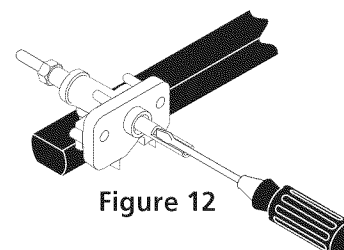

Figure 12
10.4 Adjust the "LOW" Setting of Surface Burner Valves (see Figure 12)